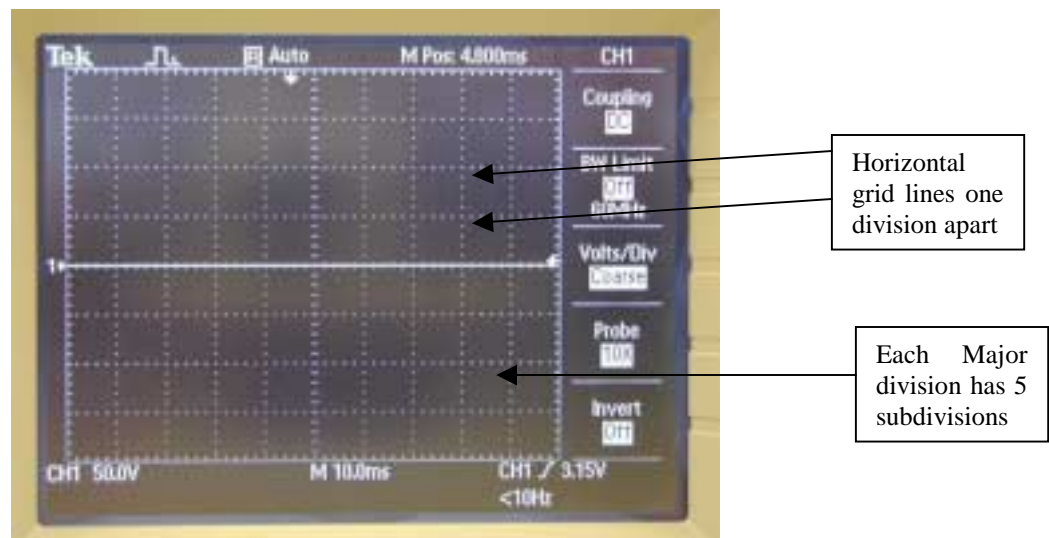

Figure 1. Oscilloscope display. There are 10 horizontal divisions and 8 vertical divisions.
- (3) Suppose the SECONDS/DIV knob is set to 1 m. What length of time is represented by the entire horizontal axis? Give your answer in milliseconds (ms) and also write it in seconds (s). (Hints: Look at Figure 1 and count the number of horizontal divisions on the screen. Then multiply by the given setting. The prefix "m" stands for milli, which is .001)